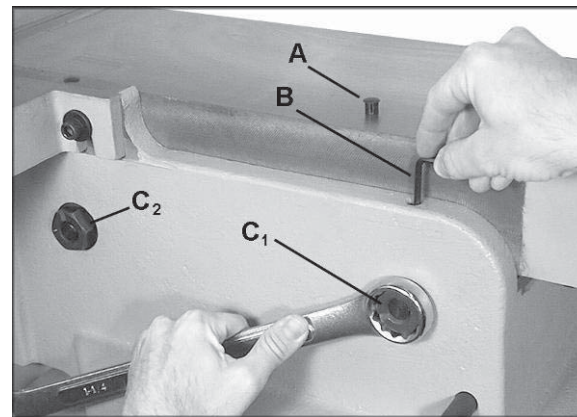

Figure 22
9. Each table has four cam adjustment devices; two in front and two in back. (C, Figure 22 shows one of these).
10. At the area of the table where the adjustment must be made, pry out the cap (A, Figure 22) from the hole.
11. There are two set screws in the hole. Insert a 4mm hex wrench (B, Figure 22) into the hole and loosen the upper set screw by turning the hex wrench counterclockwise. Remove the upper set screw from the hole.
13. Turn the hex nut (C_1 , Figure 22) with a 1-1/4" wrench. **This adjustment is sensitive and should be made in small increments.**
NOTE: The rotation is different for left and right hex nuts; the right hex nut (C_1) being turned in Figure 22 will be turned clockwise to raise that area of the table, or counterclockwise to lower that area of the table. The left hex nut (C_2) shown in Figure 22 would be rotated in the opposite manner.
15. When the adjustment is satisfactory, with the tables now coplanar, tighten the lower set screw with the hex wrench (B, Figure 22).
17. Re-insert the cap (A, Figure 22) to keep dust and debris out of the hole.